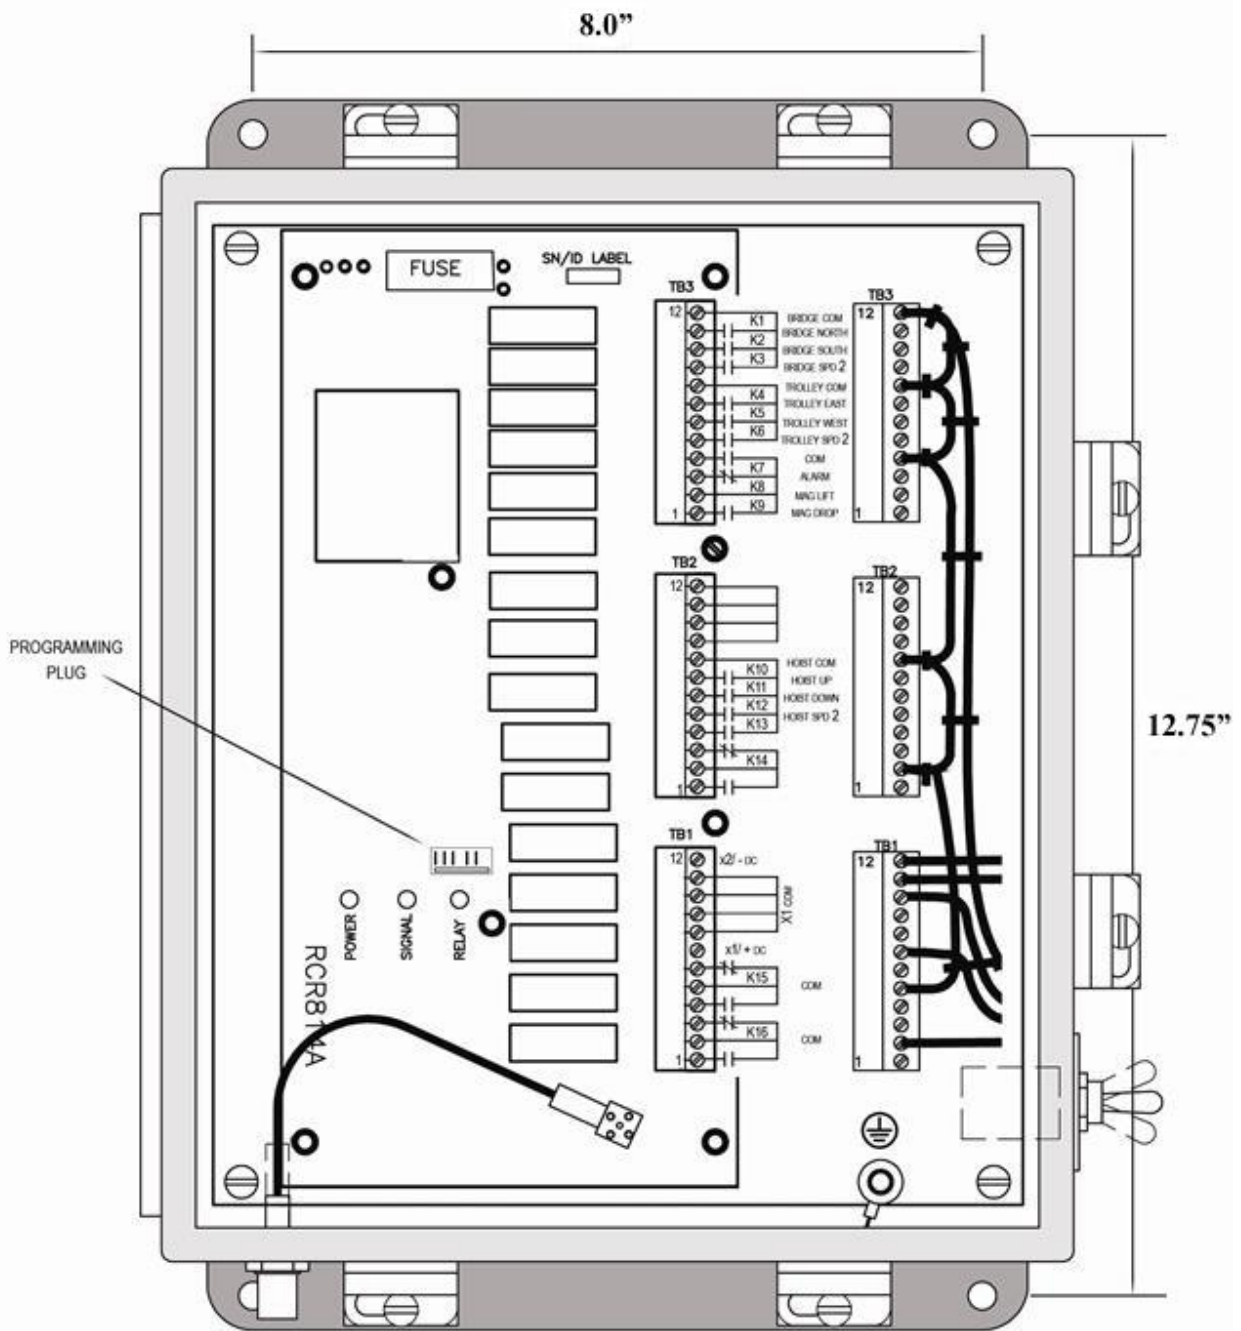
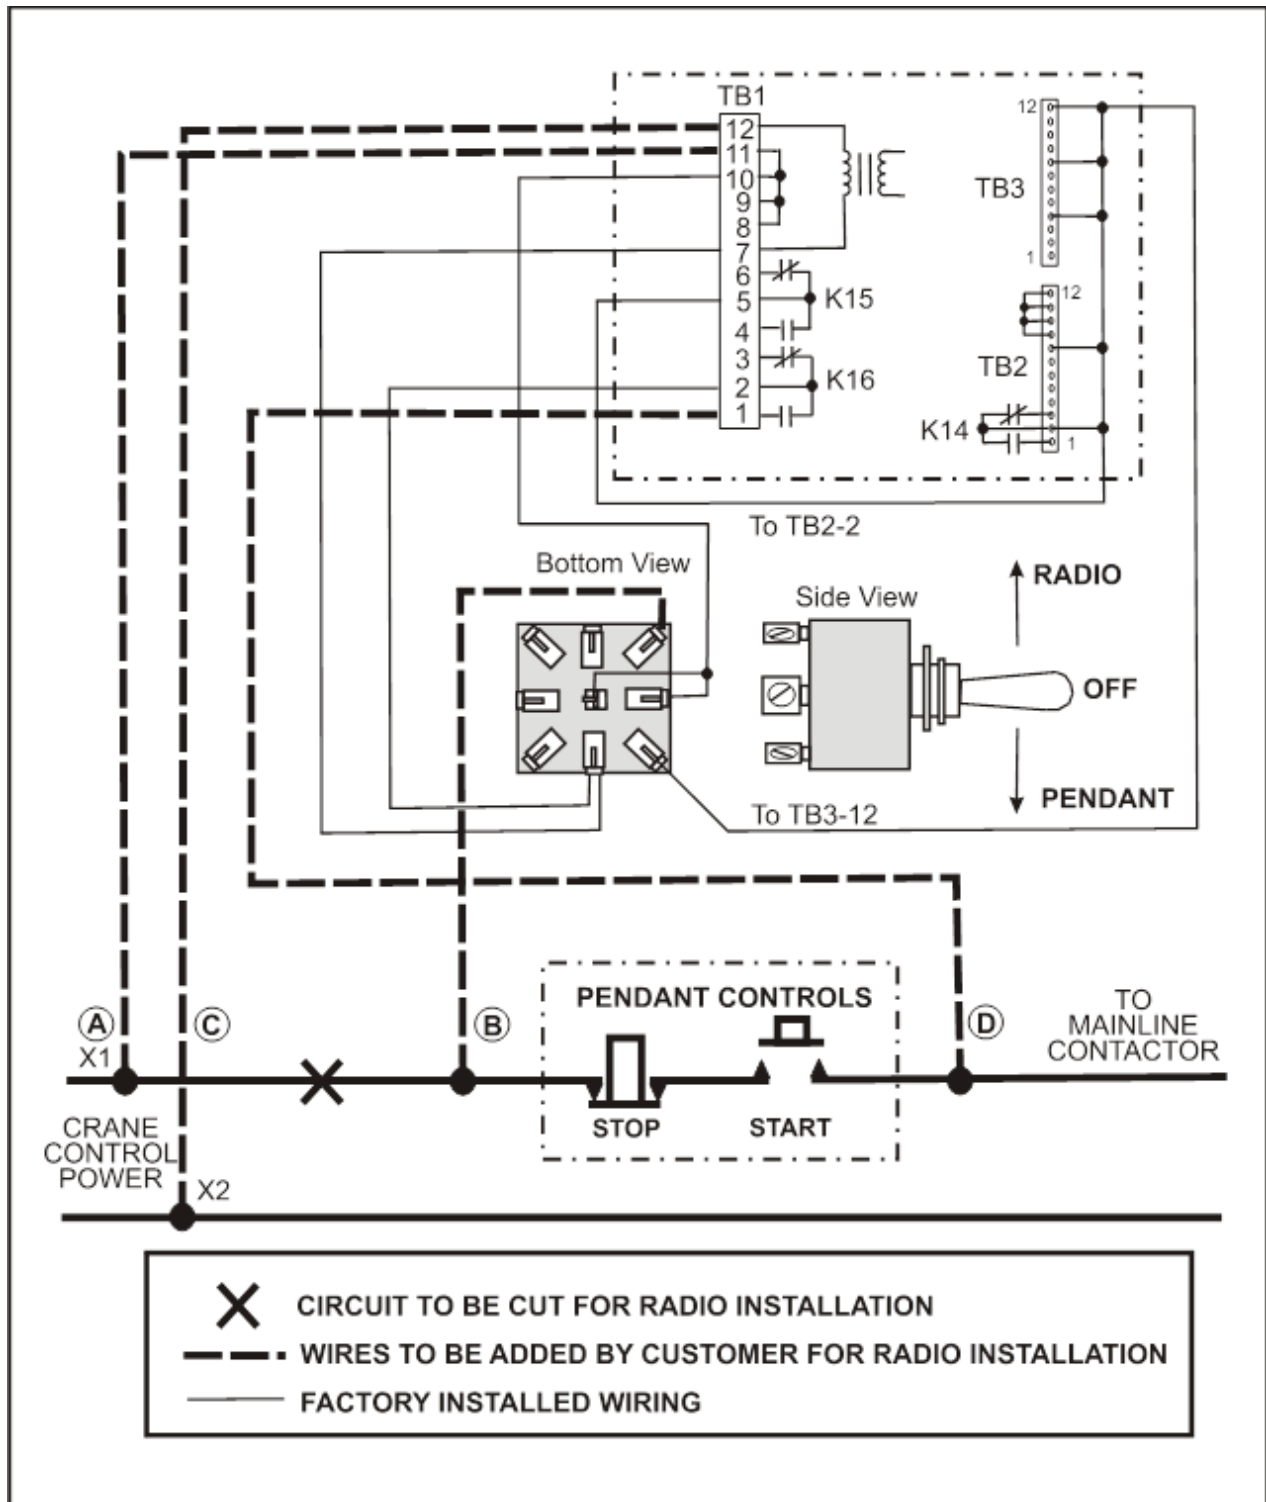

Figure 6: 21R14A Receiver
Figure 7: Typical 21R14A Power/Control Wiring
Refer to Figure 6 and Figure 7.
The transfer switch is wired so that the crane's Main Line Contactor (MLC) is controlled by the radio MLC relay when it is in the radio position and by the pendant controls when the switch is in the pendant position. Refer to Figure 7 (21R14A) for typical input control wiring for overhead cranes. Transfer switch wiring is not required unless there is a need for pendant operation. The switch can normally be wired without removing it from the receiver cabinet. Any unused switch poles can be used for isolating additional functions.
2. Verify that the POWER LED turns ON. Refer to Figure 6.